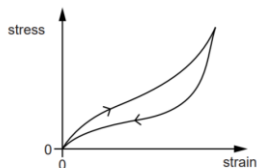

Fig. 8.1
Fig. 8.1 shows a graph of stress against strain for rubber.
- a) Use Fig. 8.1 to describe the main physical properties of this material.